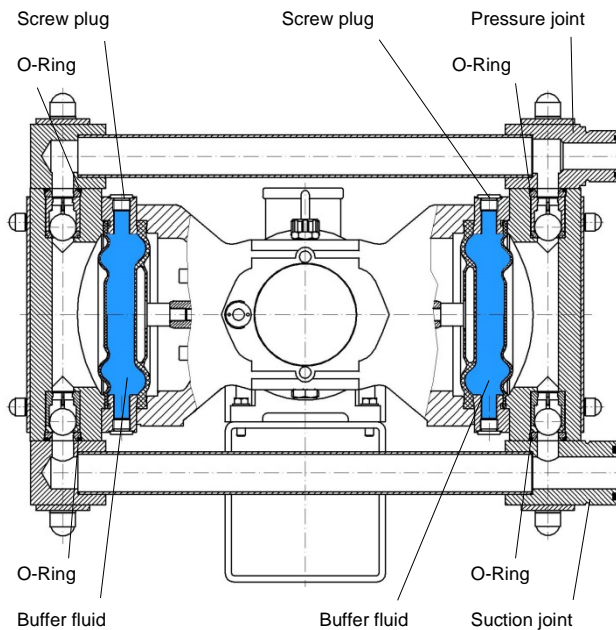

Fig. 37
- Screw in the screw plug(s) (see Fig. 37).